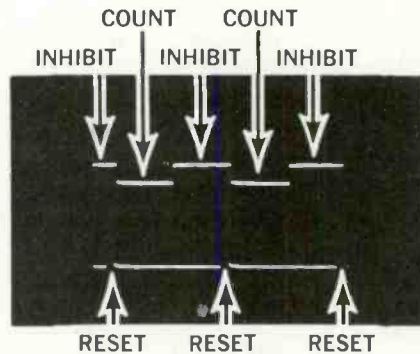
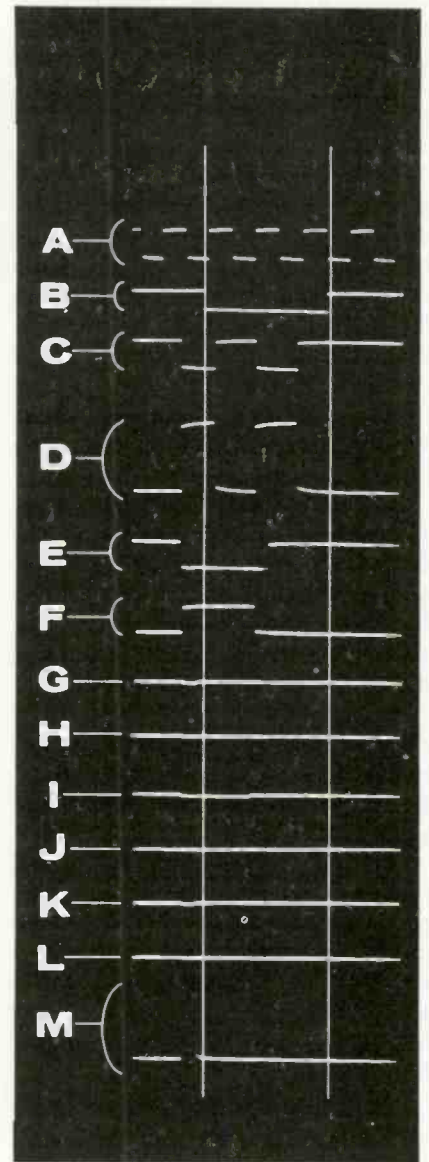
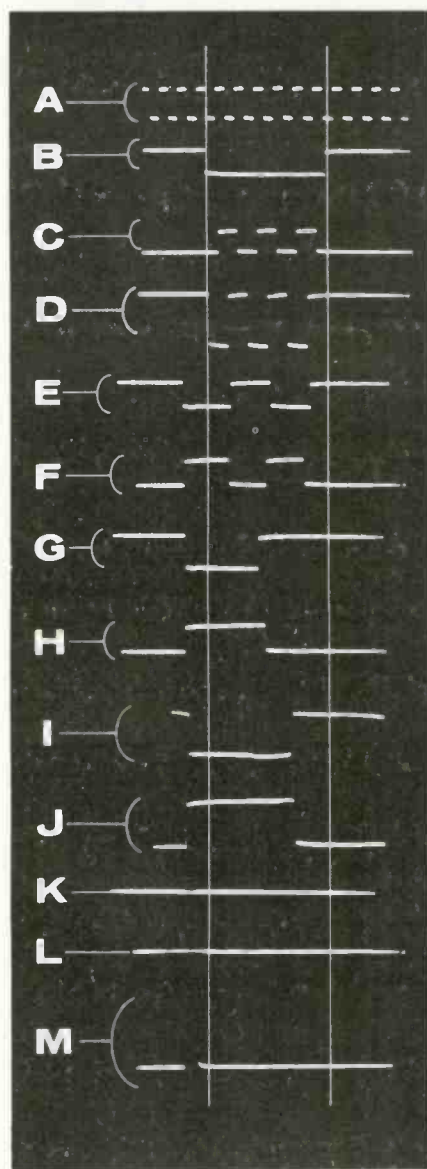

Fig. 3—Photograph of dual-trace scope waveforms showing the relationship between the inhibit gate signal (upper trace) and the reset signal (lower trace).
Fig. 4—Composite picture showing actual scope traces as first decade circuitry counts to three.
Fig. 5—Composite picture showing actual scope traces as first decade circuitry counts to six.
Fig. 4 is a composite picture made up of 12 photographs taken of dual-trace scope waveforms obtained with
Fig. 4 contains one more waveform (M) than shown in Fig. 2. This additional signal (M) is used to reset all the flip-flops to their "0" condition before the start of each counting interval determined by inhibit gate signal B. The relationship between these two signals is shown more clearly in Fig. 3 (the gate signal being the upper trace and the reset signal being the lower trace).
Referring to Fig. 4, we note that
The composite picture in Fig. 5 was made from 12 photographs using the same techniques used for making the picture shown in Fig. 4. However, this time an input signal of nearly 6kHz is shown applied to the decade counter circuitry, its frequency being about six times that of the 1kHz gate signal (B). Thus, at the end of the counting interval, the flip-flops have been switched to